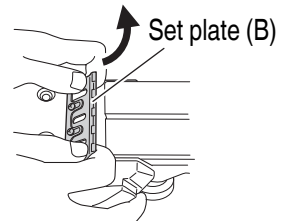
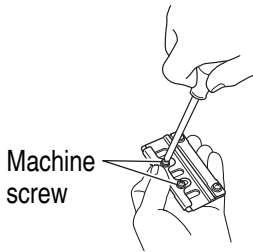
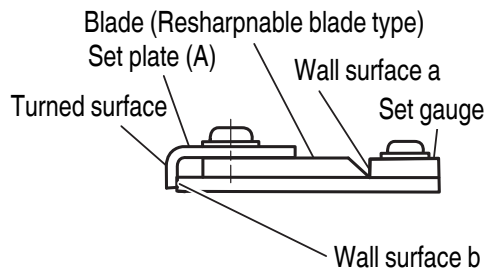

Fig. 16
Fig. 17
Fig. 25
- (2) As shown in **Fig. 16**, after removing the carbide blade, slide set plate (B) in the direction indicated by the arrow to disassemble set plate (B).
- (3) Loosen the 2 screws holding on the carbide blade and set plate (A), set plate (B).
- (4) As shown in **Fig. 17, 18**, press the turned surface of set plate (A) to the wall surface b while adjusting the carbide blade edge to the wall surface a of the set gauge. Then, tighten them with the 2 screws.
- (2) As shown in **Fig. 16 on page 21**, slide the blade in the direction indicated by the arrow to disassemble the blade.
- (1) Loosen the 2 screws holding on the blade and set plate (A).
- (2) Press the turned surface of set plate (A) to the wall surface b while adjusting the blade edge to the wall surface a of the set gauge. Then, tighten them with the 2 screws. (**Fig. 17 on page 21 and Fig. 25**)